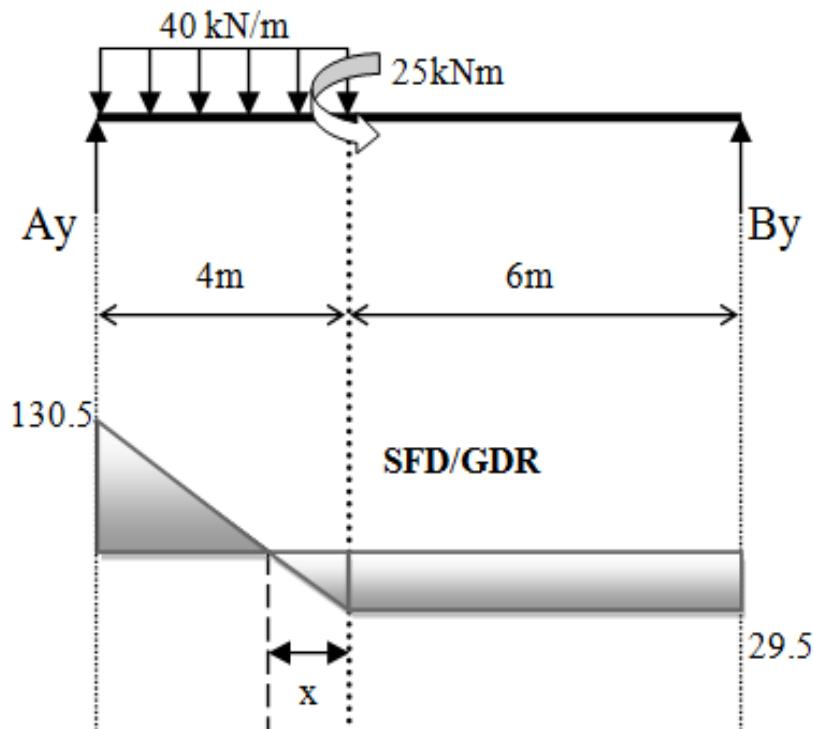

Figure B3(a) / Rajah B3(a)
- (a) Identify the 'x' distance value based on **Figure B3(a)** below: